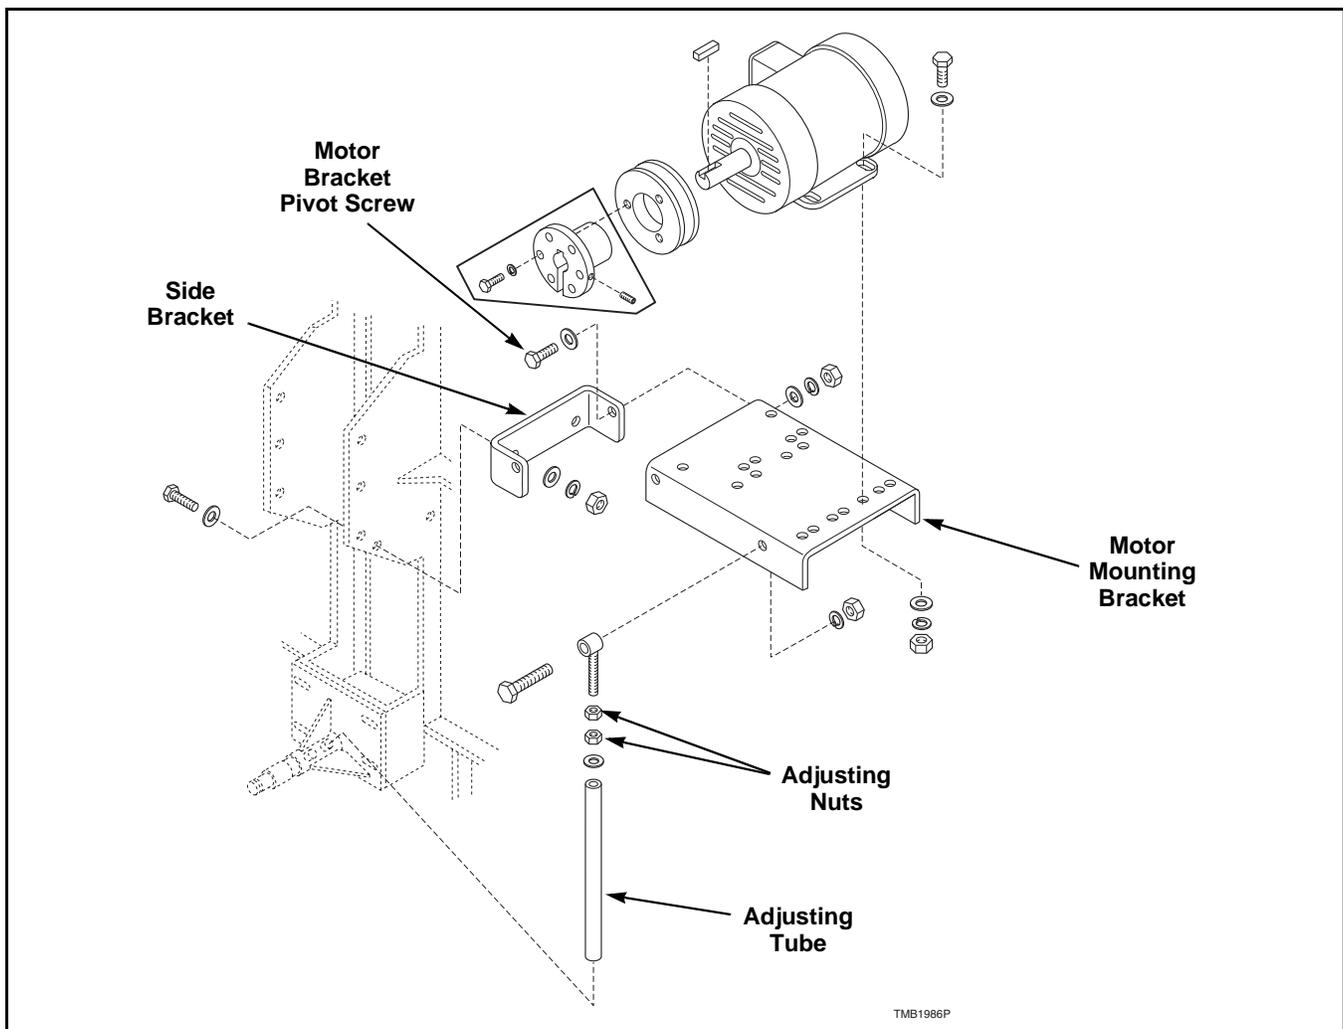

Figure 3
Refer to *Figure 3*.
- d. Loosen the two motor bracket pivot screws. Refer to *Figure 3*.
- e. Turn the adjusting nuts clockwise until proper tension is reached. Refer to *Figure 3*.